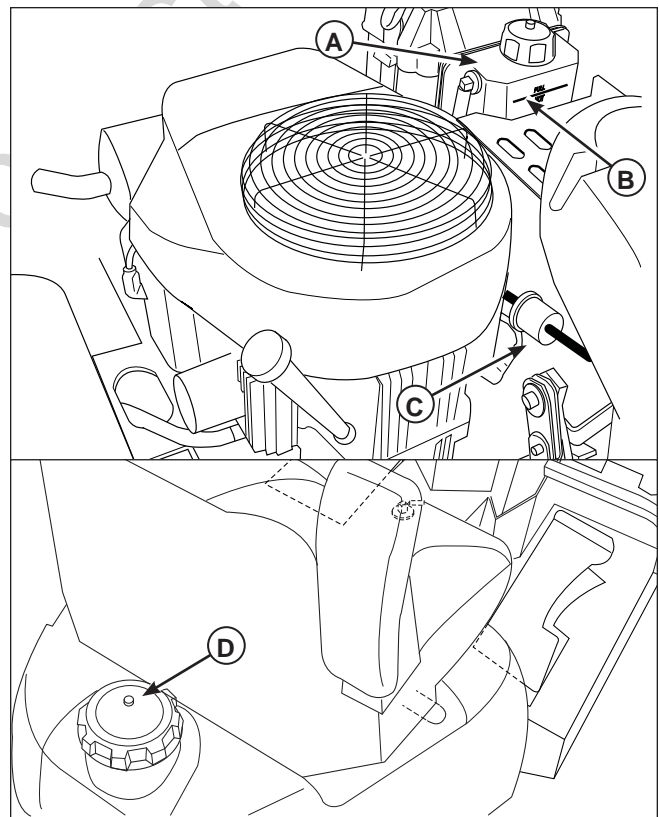

Figure 7. Fuel Tank, Oil Reservoir & Fuel Filter
1. Remove the fuel cap (D, Figure 7).
The fuel filter (C, Figure 7) is located in the fuel line between fuel shut off valve and carburetor, near the fuel pump. If filter is dirty or clogged, replace as follows:
1. Observe the oil reservoir (A, Figure 7). The oil level should be at the “FULL” line (C).